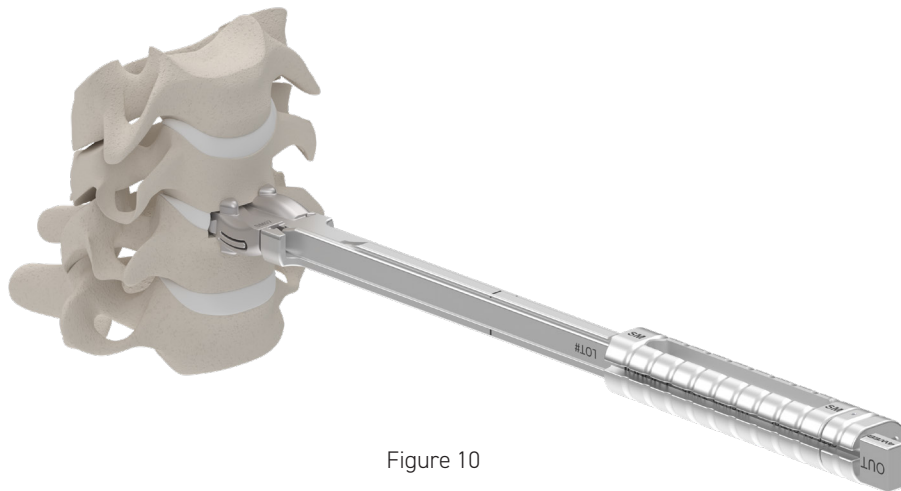

Figure 10
- ▲ Insert the Anchor Tamps into the square openings on the proximal end of the Anchor Inserter, with the side labelled “OUT” facing outward, until the distal tip of the Anchor Tamps is in contact with the head of the Fixation Anchor (Fig. 10).